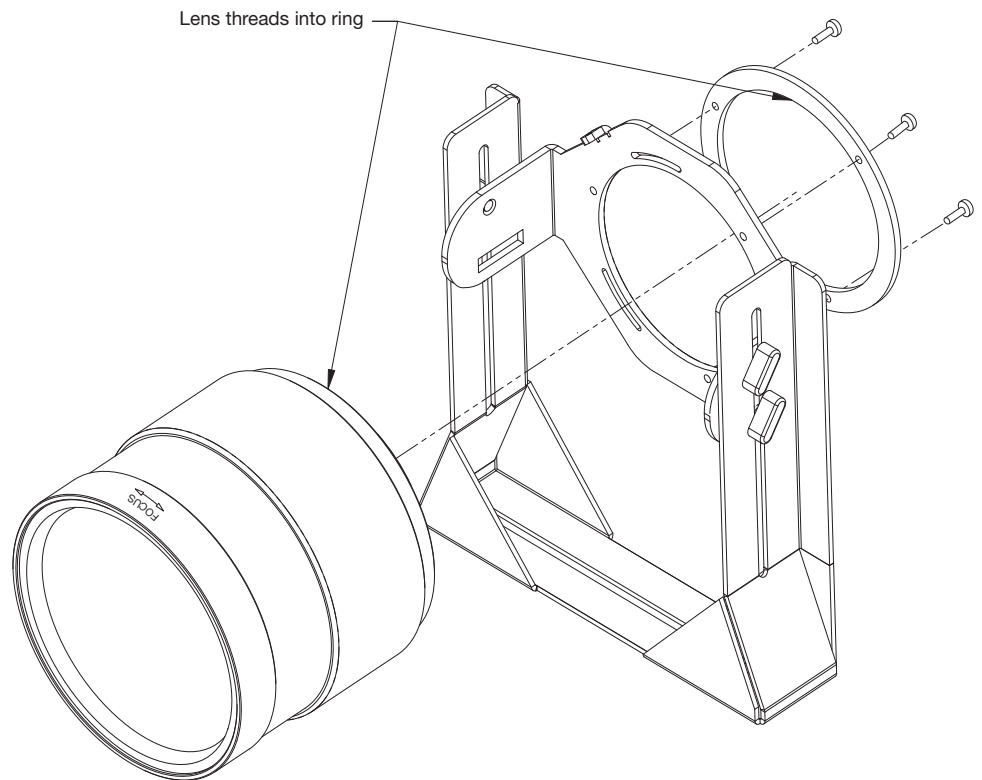

Figure 3-18. Attaching the Anamorphic Lens to the Lens Adapter Ring
4. Use the Lens Mounting Screws to attach the Lens Adapter Ring (item #1) to the Pitch Adjustment Yoke (item #2); see Figure 3-18. (Use the round, threaded holes on the yoke.)